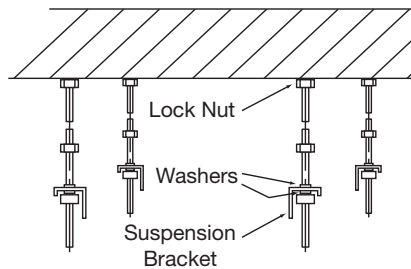

Figure 3
- Hang the four mounting rods to the positions marked as picture shown in figure 3 (using twelve nuts and eight washers to support the suspension brackets). Suspend the unit to the mounting rods. Lock the nuts, ensure for good drainage, and check whether the unit is on horizontal level by using leveling guage.